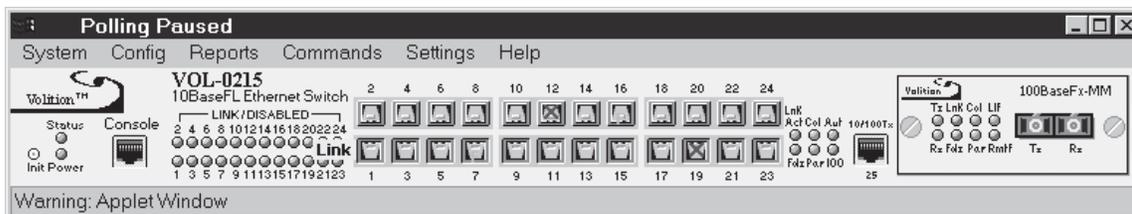

Figure 2: VWMS Main Window of the VOL-0215
The management application loads from the switch, please wait until loading is finished. The main VWMS window opens (refer to Figure 2 on page 12).
2. When prompted, enter the username *volition* and the password. By default there is no password (leave the password field blank). The management application loads from the switch, please wait until loading is finished. The main VWMS window opens (refer to Figure 2 on page 12).